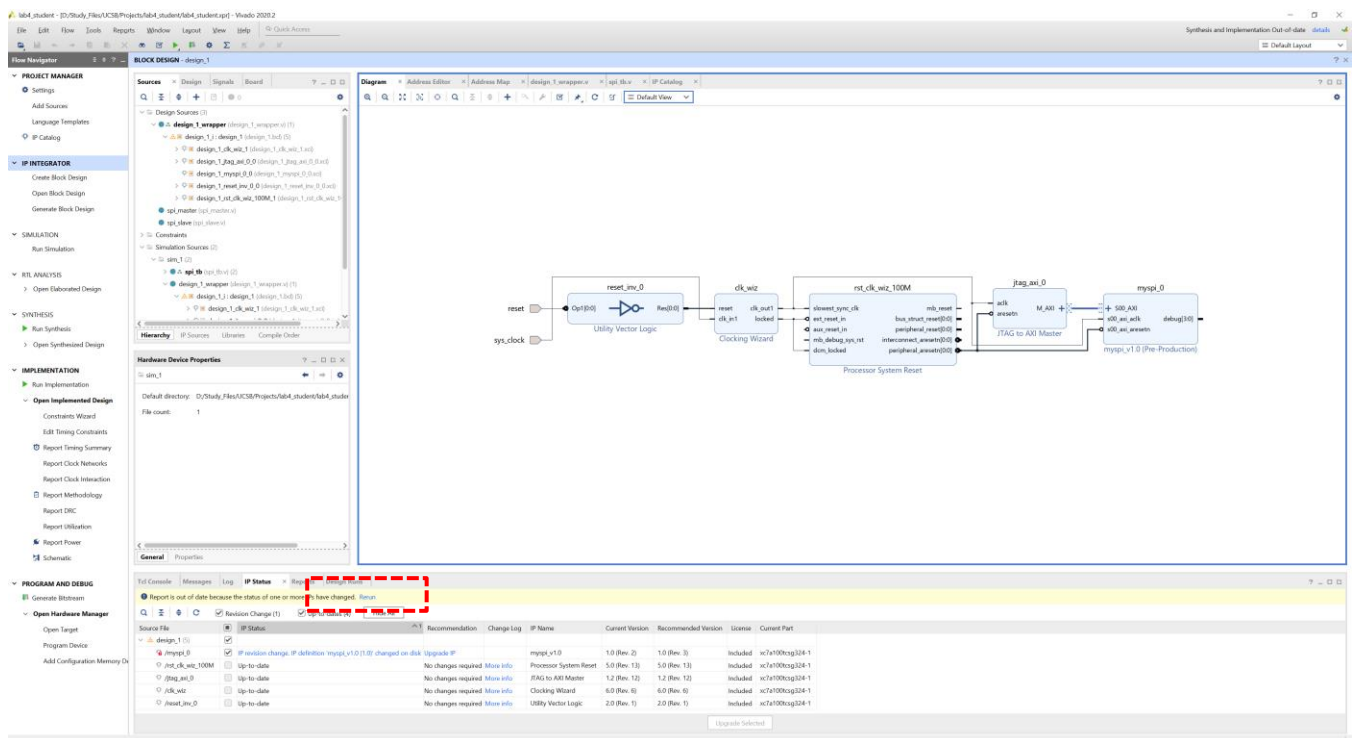

Figure 17: Return to original design and report IP status (cont).
- 3) As in Figure 17, click “rerun”.